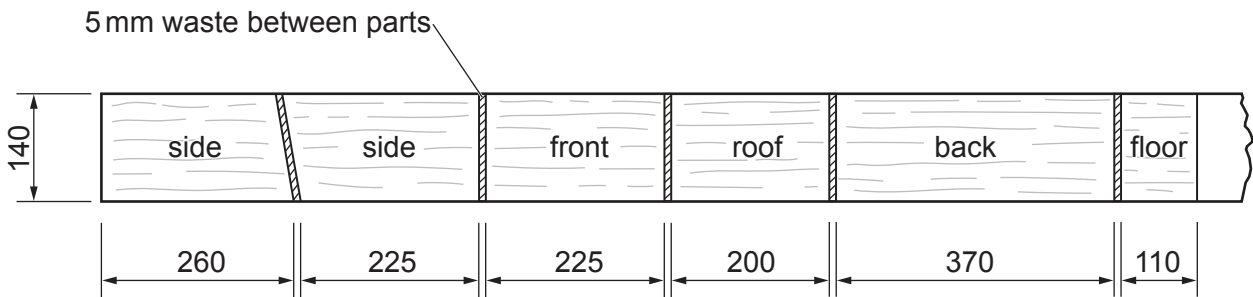

Fig. 13.2
- (b) Fig. 13.2 shows the parts of one nesting box marked out on a length of softwood.